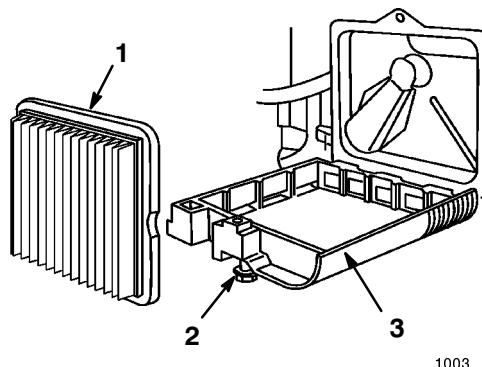

Figure 18
3. Loosen the screw that secures the air filter cover to the engine (Fig. 18).
4. Tilt the air cleaner cover down and clean the cover thoroughly (Fig. 18).
5. Remove and discard the paper air cleaner filter (Fig. 18).